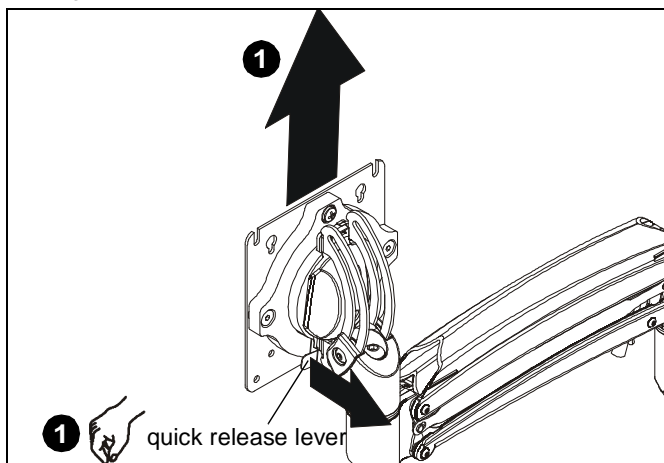

Figure 13
- Remove quick release faceplate from mount by pulling quick release lever and sliding faceplate off mount. (See Figure 13)